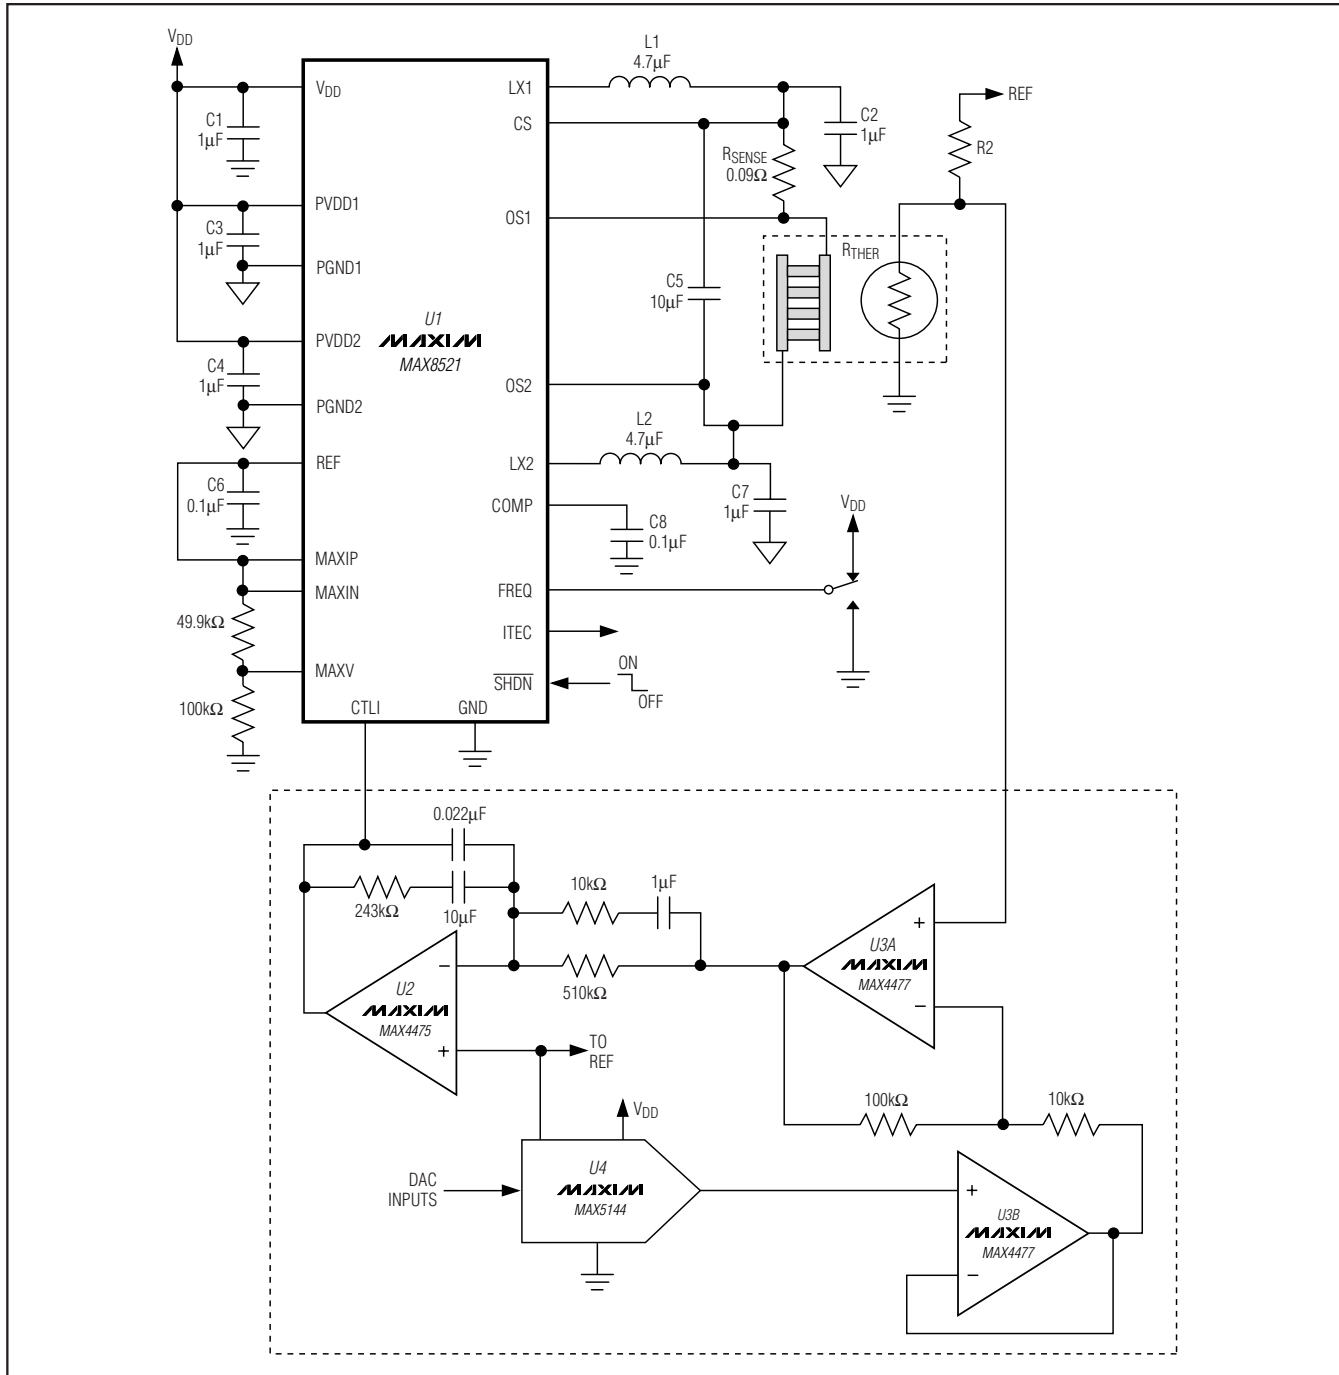

Figure 1. MAX8521 Typical Application Circuit
( $V_{DD} = 5V$ , circuit of Figure 1,  $T_A = +25^\circ C$  unless otherwise noted.)
(VDD = 5V, circuit of Figure 1, TA = +25°C unless otherwise noted.)
The MAX8520/MAX8521 TEC drivers consist of two switching buck regulators that operate together to directly control the TEC current. This configuration creates a differential voltage across the TEC, allowing bi-directional TEC current for controlled cooling and heating. Controlled cooling and heating allow accurate TEC temperature control to within 0.01°C. The voltage at CTLI directly sets the TEC current. An external thermal-control loop is typically used to drive CTLI. Figures 1 and 2 show examples of the thermal-control-loop circuit.
Table 1. TEC Connection for Figure 1
The MAX8520/MAX8521 include an on-chip voltage reference. The 1.50V reference is accurate to 1% over temperature. Bypass REF with 0.1μF to GND. REF can be used to bias an external thermistor for temperature sensing as shown in Figures 1 and 2.
The common-mode filter capacitors (C2 and C7 of Figure 1) are used as filter capacitors to ground for each output. The output ripple voltage depends on the capacitance, the ESR of these capacitors, and the inductor ripple current. Ceramic capacitors are recommended for their low ESR and impedance at high frequency.
The differential-mode filter capacitor (C5 in Figure 1) is used to bypass differential ripple current through the TEC as the result of unequal duty cycle of each output. This happens when the TEC current is not at zero. As TEC current increases from zero, both outputs move away from the 50% duty-cycle point complementarily. The common-mode ripple decreases, but the differential ripple does not cancel perfectly, and there will be a resulting differential ripple. The maximum value happens when one output is at 75% duty cycle and the other is at 25% duty cycle. At this operating point, the differential ripple is equal to 1/2 of the maximum common-mode ripple. The TEC ripple current determines the TEC performance, because the maximum temperature differential that can be created between the terminals of the TEC depends on the ratio of ripple current and DC current. The lower the ripple current, the closer to the ideal maximum. The differential-mode capacitor provides a low-impedance path for the ripple current to flow, so that the TEC ripple current is greatly reduced. The TEC ripple current then can be calculated as follows:
There are numerous ways to implement the thermal loop. Figures 1 and 2 show designs that employ precision op amps, along with a DAC or potentiometer to set the control temperature. The loop can also be implemented digitally, using a precision A/D to read the thermistor or other temperature sensor, a microcontroller to implement the control algorithm, and a DAC (or filtered-PWM signal) to send the appropriate signal to the MAX8520/MAX8521 CTLI input. Regardless of the form taken by the thermal-control circuitry, all designs are similar in that they read temperature, compare it to a set-point signal, and then send an error-correcting signal to the MAX8520/MAX8521 that moves the temperature in the appropriate direction.
6) To ensure high DC-loop gain and minimum loop error, keep the board layout adjacent to the negative input pin of the integrator (U2 in Figure1) clean and free of moisture. Any contamination or leakage current into this node can act to lower the DC gain of the integrator which can degrade the accuracy of the thermal loop. If space is available, it can also be helpful to surround the negative input node of the integrator with a grounded guard ring.